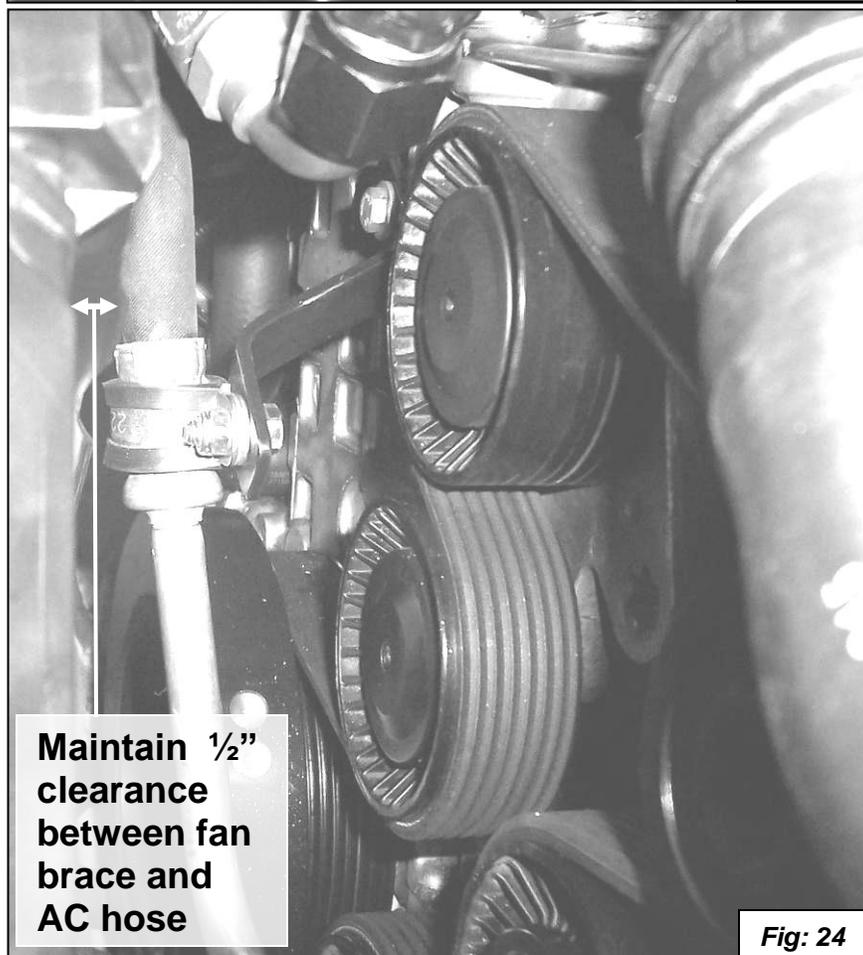

Fig: 24
26. Use the photo below to mount the new **AC Line Support Bracket** with the original bolt. Leave the mounting bolt loose enough that the Bracket can be easily rotated if necessary. The free end of this bracket should be just slightly higher than the mounted end or slightly up from level. Use the enclosed **#22 Loop Clamp, M6 x 16 bolt, M6 wave washer and M6 nylok nut** to attach the AC Line to the new Support Bracket. The goal is to lower the AC line about 2-1/2" at the swaged collar below the oil thermostat housing. You may want to leave the two bolts slightly loose until the Oil Lines are installed then tighten them when you are sure there is sufficient clearance, as they will still be easy to reach. Be careful to maintain about 1/2" or more clearance between the AC line and the rear of the auxiliary fan assembly at the closest point. You do not want the AC line to hit the fan assembly during hard braking. **See figure 24.**